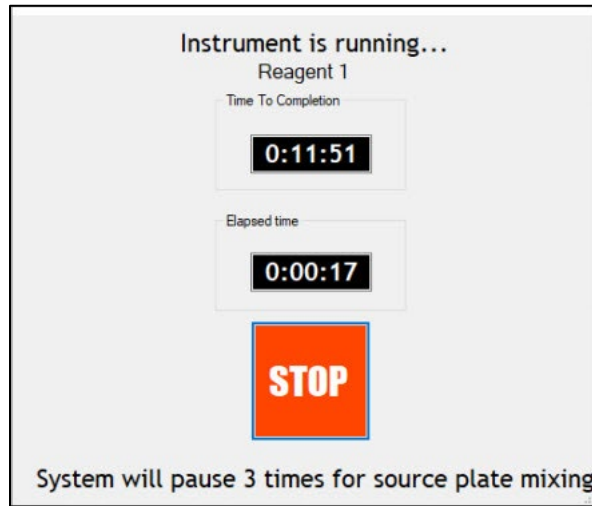

Figure 79. Dispense status screen when the pause function is enabled for the dispense step.
- a. The progress window may look like the example below in Figure 79, with text at the bottom of the window indicating how many pauses the system operator should expect.